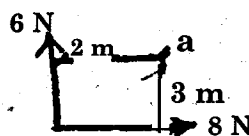

Fig. 1
4. For the fig. 1 shown find the moment of forces at point 'a'.